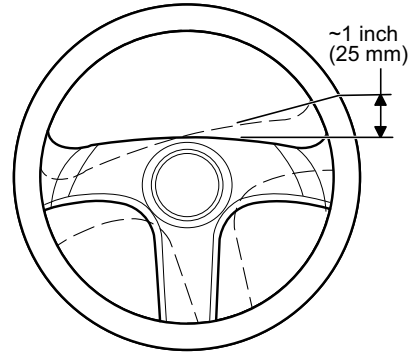

Fig. 32 Steering Wheel Play
1. Remove the nuts (2) that secure the steering rack ball joints (3) to the spindles. Refer to *Front Spindle Removal*.
2. Remove the nut (28) and bolt (29) securing the steering shaft yoke to the steering rack (Ref. Fig. 32).
1. Remove the nut (2) that secures the rack ball joint (3) to the spindle. See *Spindle Removal*.
2. Remove the rack end ball joint (3) from the steering rack by loosening the jam nut (4) and un-threading the ball joint off the rack (Ref. Fig. 32).